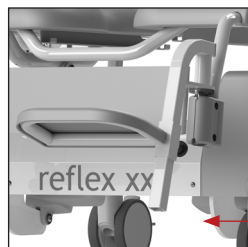

Figure 9. Height adjustment Reflex XXL.
- The footrests of the Reflex XXL are height adjustable. To do this, loosen the pull knob and select the desired position (See figure 9).